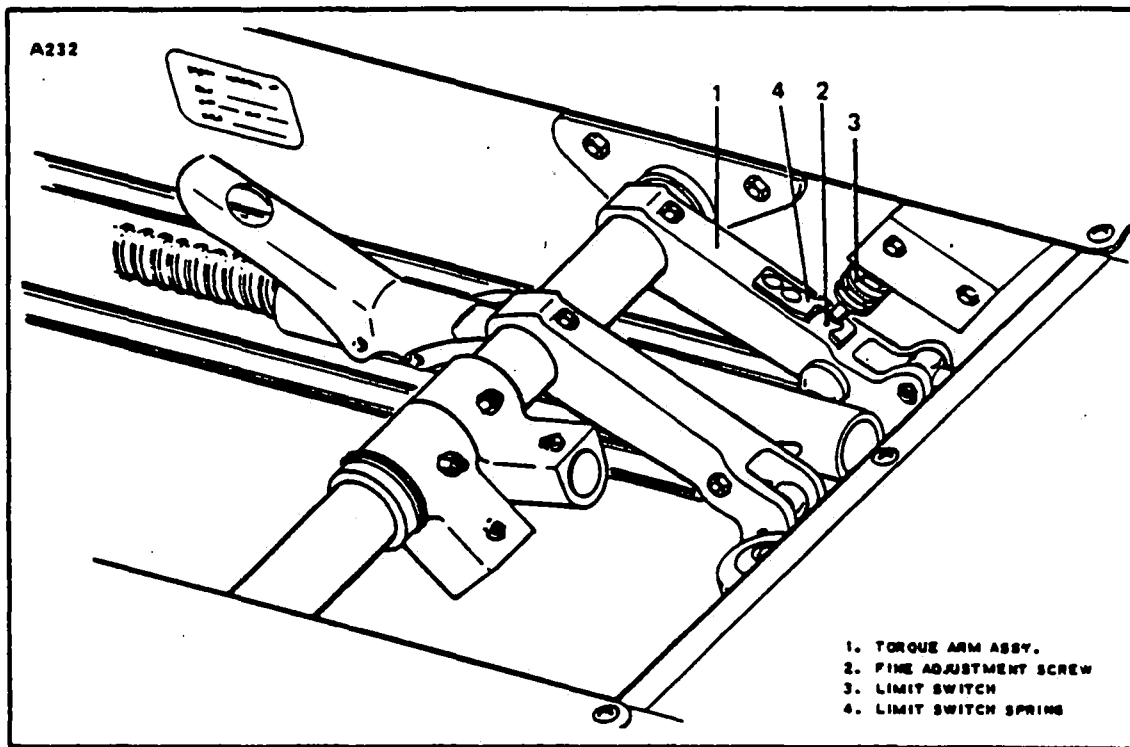

Figure 7-15. Landing Gear Up Limit Switch
**7-48. ADJUSTMENT OF GEAR UP SWITCH. (Refer to Figure 7-15.)** Adjust the gear up switch using the following procedure:
- b. If the gear does not retract far enough, move the switch (3) up in its bracket and run the check again. On the late model airplanes a set screw (2) is located